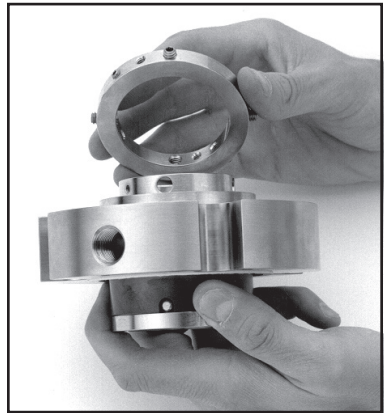

Figure 16
4.3.9 **Install the sleeve collar** onto the sleeve and align the set screws with the holes. See Figure 16.